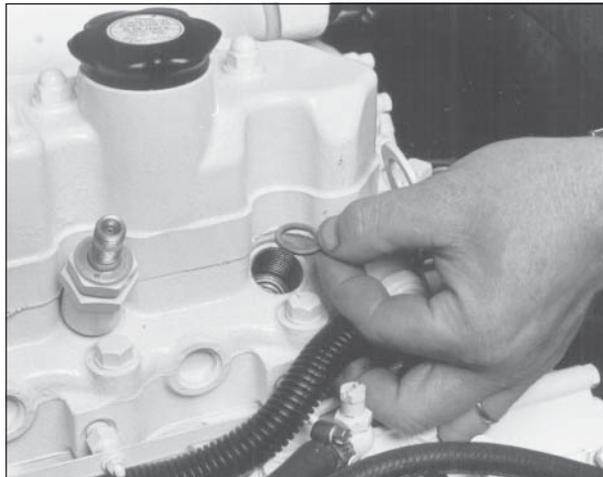

Figure 13: Remove and replace copper sealing washer.
- f. After removing the injectors, discard the copper sealing washers from the injector hole in the head (Figure 13). Cover holes to prevent dirt and debris from entering the cylinders.
- a. Install a new copper sealing washer in each injector hole (Figure 13).